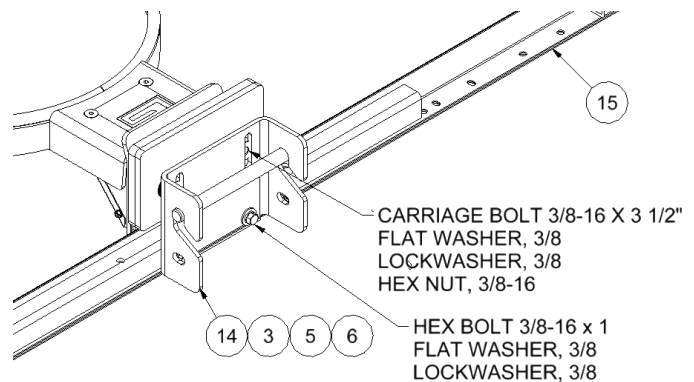

Figure 2
1. Position the Quick Change Backboard Bracket, item 14, to the back of the board and install a 3/8-16 x 1" bolt with flat washer and lock washer in the lower two holes of the mounting plate and into the two tapped insert holes of the LXP backboard, item 15, as shown in figure 2.
2. Using the hardware supplied with the goal, insert the two carriage bolts through the top goal mounting holes on the backboard and loosely install the nuts and washers on the back side of the board as shown in figure 2. Slide the goal over the carriage bolt heads and over the studs on the front of the board. Install the flat washer, lock washer and nuts on the studs and tighten to 9-11 ftlb [12-15 Nm]. Tighten the two top carriage bolts securely to 15-20 ftlb [20-27 Nm].